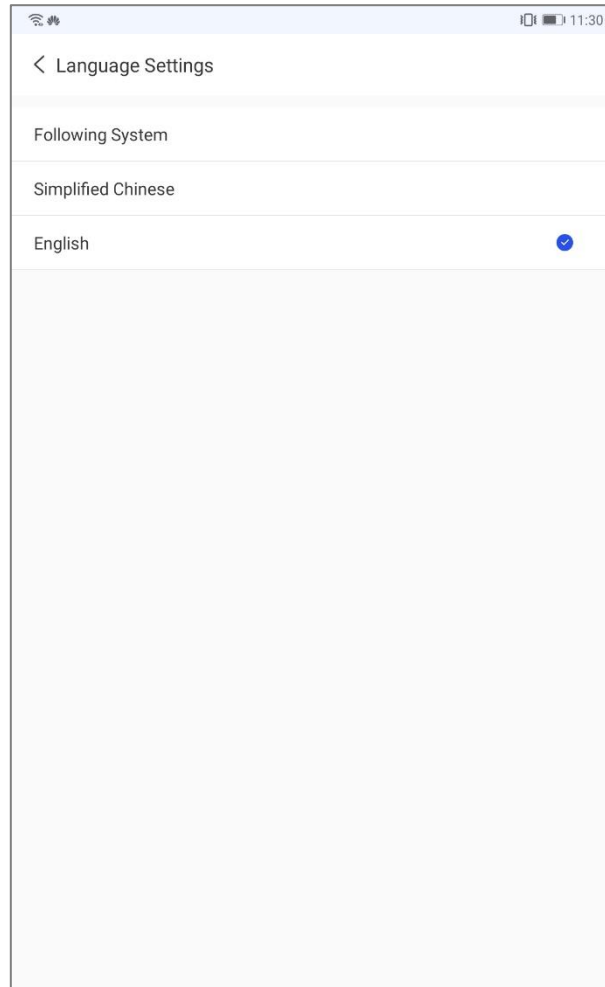

Figure 5-17. Setting Interface – Language Setting
5. **Language Setting:** intended to set application software language, as shown in figure 5-17.